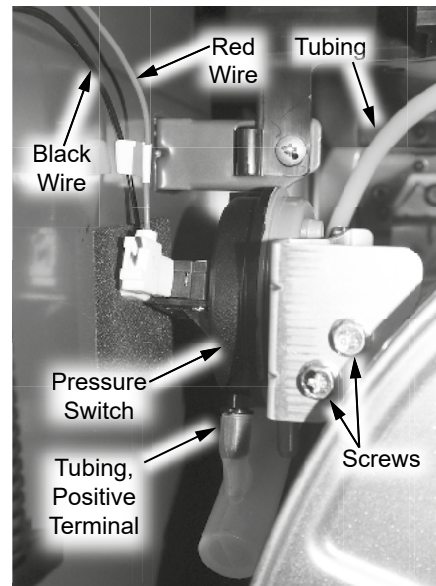
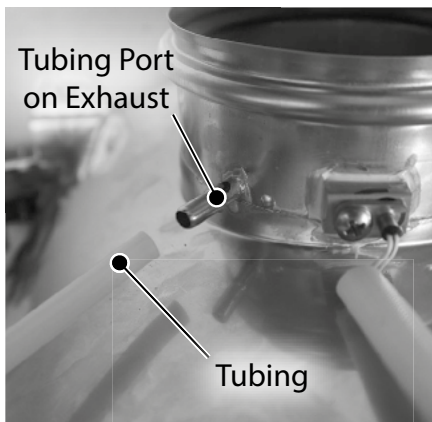

Figure 18 - Pressure switch assembly location
Figure 30 - Install tubing to heat exchanger
- 36 Locate the pressure switch assembly on upper left side of the heat exchanger as shown in Figure 18.
64 Connect tubing from pressure switch assembly to the port located on the heat exchanger exhaust as shown in Figure 30. Confirm tubing is fully secured to heat exchanger. Confirm tubing is connected to the positive terminal (black side) of the pressure switch assembly as shown in Figure 18.
black connection is on the left. Confirm connections are tight and routed properly as shown in Figure 18.